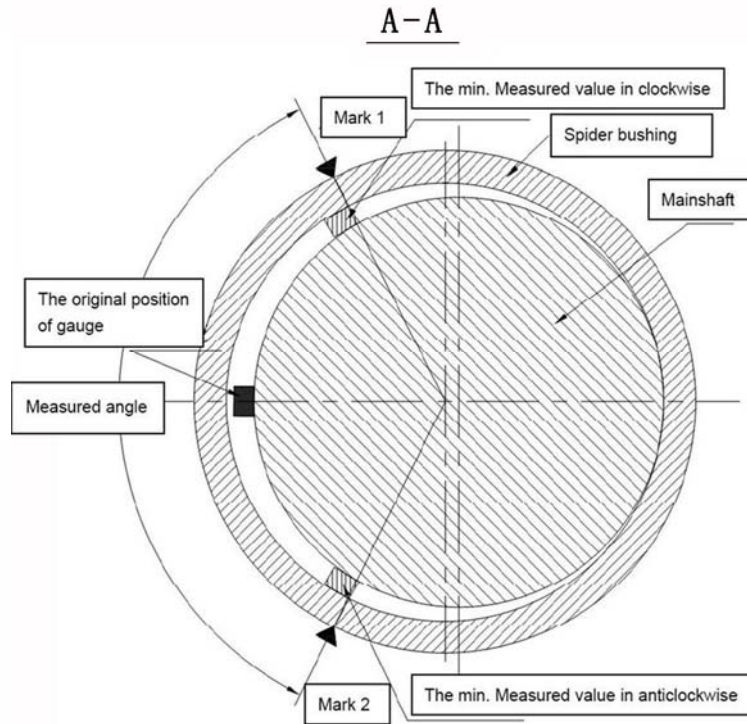

Fig.9-8 Sketch of gauge measurement method
- ⑦ Take the central point of spider bushing as the center, the angle after connecting mark 1 and mark 2 is as indicated in A-A view. Please refer to figure 9-8.